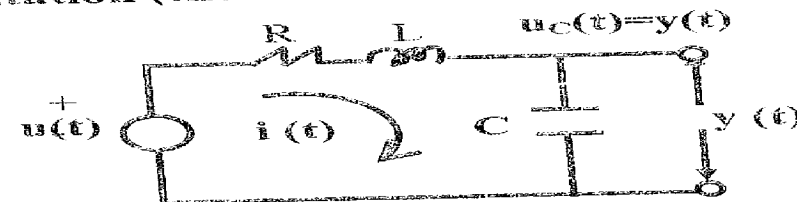

Fig.3a RLC Circuit
3. a- For the R L C circuit in fig.3a